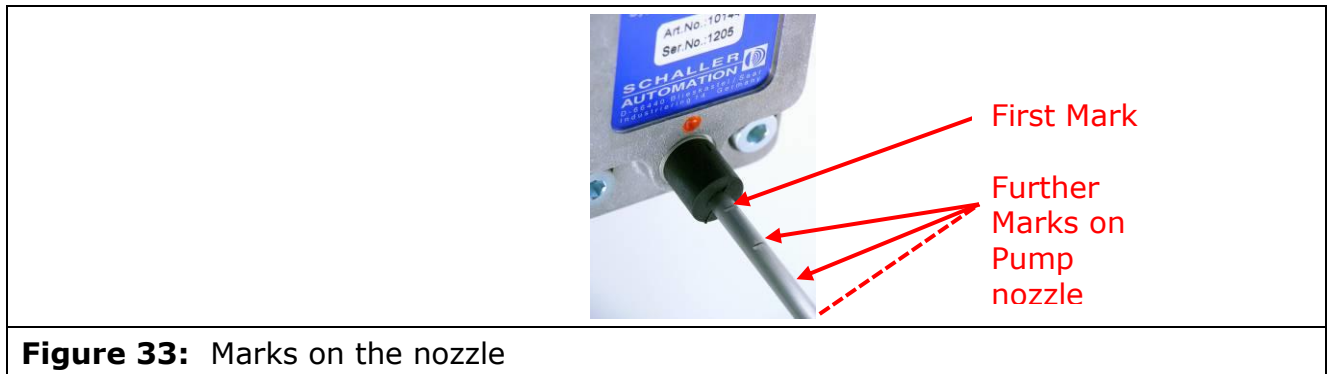

Figure 33: Marks on the nozzle
- Push the nozzle to the first mark (see Figure 33).